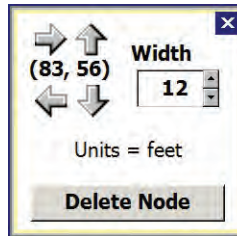

Figure 7.17 - Node Adjustment Window
- 2 Click on the selected lane in the vicinity of the desired node to bring up the Node Adjustment window (see Figure 7.17).
- 2 Click and drag the lane node to the desired location (see Figure 7.18). Additionally, you can click on the selected lane in the vicinity of the desired node to bring up the Node Adjustment window (see Figure 7.17). The numbered pair (x,y) between the arrows indicates the distance within the sensor's view. Click on the arrows to move the node in the desired direction.